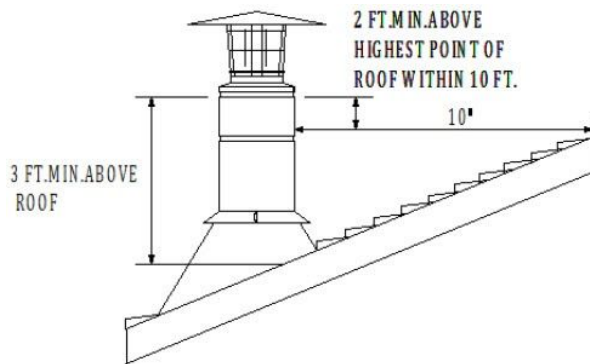
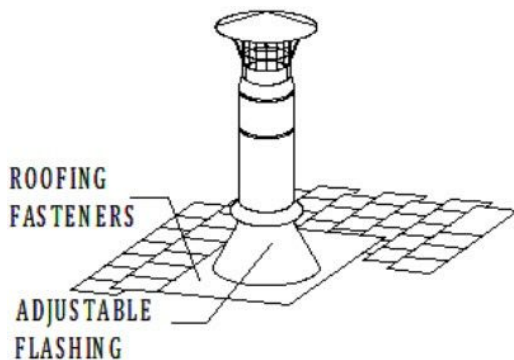
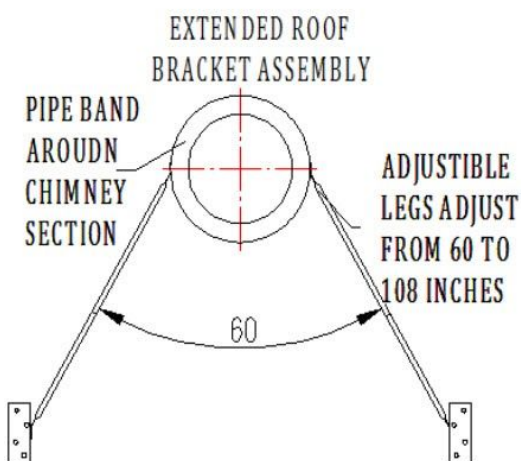

Fig.1
Fig 10
Fig 13
The National Fire Protection Association Standard #211 states: "Chimneys shall extend at least three feet above the highest point where it passes through the roof of a building, and at least two feet higher than any portion of a building within ten feet." (Fig 1). If the chimney extends more than 5 feet above the roof, a Roof Brace must be used (see page 11). Due to the overlap of joints, subtract 1- $\frac{1}{8}$ inches from each Chimney Section's height to calculate installed height.
pipe, which is exposed to the weather (Fig 10 & 11). Slide the Storm Collar down over the chimney to the top of the Roof Flashing. Tighten and seal the Storm Collar against the sealant. After installing sufficient Chimney Sections to meet the height requirement (Fig 1), attach the Chimney Cap on top of the chimney by holding the collar of the cap and twist locking it clockwise onto the chimney. Do not hold the upper portion of the cap and twist, as this may damage the cap. The Chimney Cap can be removed for chimney cleaning as described in the Chimney Maintenance section of the instructions. Use an Extended Roof Brace if the chimney extends more than 5 feet above the roof (Fig 13 & 14 on pg 14).
2. Attach the Legs: The Adjustable Legs of the assembly will adjust from 60" to 108". Secure one end of the Legs to the Pipe Band using the nuts and bolts included (1 per leg). Position the Adjustable legs so they form approximately a 60° angle with the chimney, and with each other (Fig 13 & 14). Be sure that there is at least 3" of overlap between the top and bottom halves of the Adjustable Leg. In order to secure Legs in proper position, there is a hole